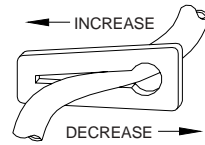

FIG. 9
- **Adjust water amount.** Your cooler is equipped with a unique water metering valve (Fig. 9). The amount of water delivered to the pads may be decreased by pressing the plastic valve as the arrows indicate. If water is splashing out of water troughs, you may need to decrease the amount of water delivery. Check to see that all pads are saturated with water and that there are no dry spots or openings in the pads.